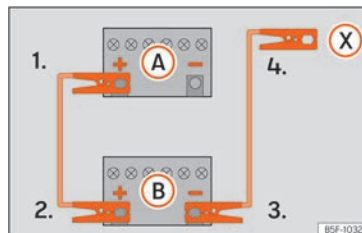

Fig. 80 Diagram of connections for vehicles without Start-Stop system.
2. Connect one end of the *red* jump lead to the positive (+) terminal of the vehicle with the flat battery (A) » Fig. 80.
3. Connect the other end of the *red* jump lead to the positive terminal (+) in the vehicle providing assistance (B).
- 4a. *In vehicles without a Start-Stop system:* connect one end of the *black* jump lead to the negative terminal (-) of the vehicle providing the current (B) » Fig. 80.